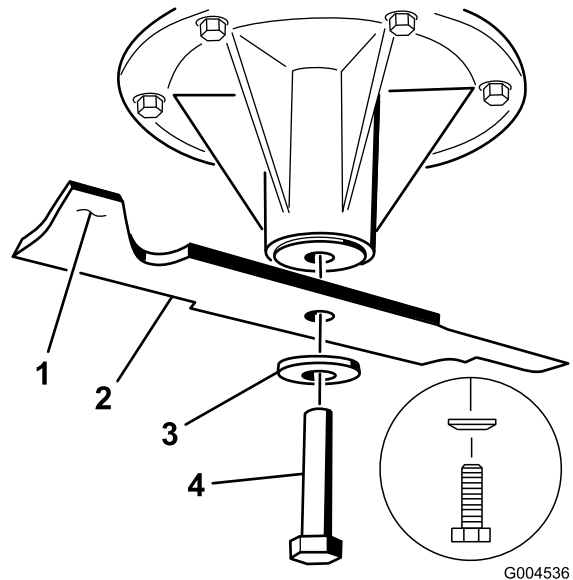
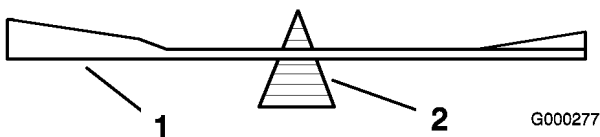

Figure 74
Figure 77
2. For 40 and 48 inch mower decks, remove the blade bolt, curved washer, and blade from the spindle shaft (Figure 74).
2. Check the balance of the blade by putting it on a blade balancer (Figure 77). If the blade stays in a horizontal position, the blade is balanced and can be used. If the blade is not balanced, file some metal off the end of the sail area only (Figure 74). Repeat this procedure until the blade is balanced.
1. Install the blade onto the spindle shaft (Figure 74).
- Important:** The sail part of the blade must be pointing upward, toward the inside of the mower to ensure proper cutting (Figure 74).
2. For 40 inch and 48 inch mower decks, install the blade, curved washer, and blade bolt (Figure 74).